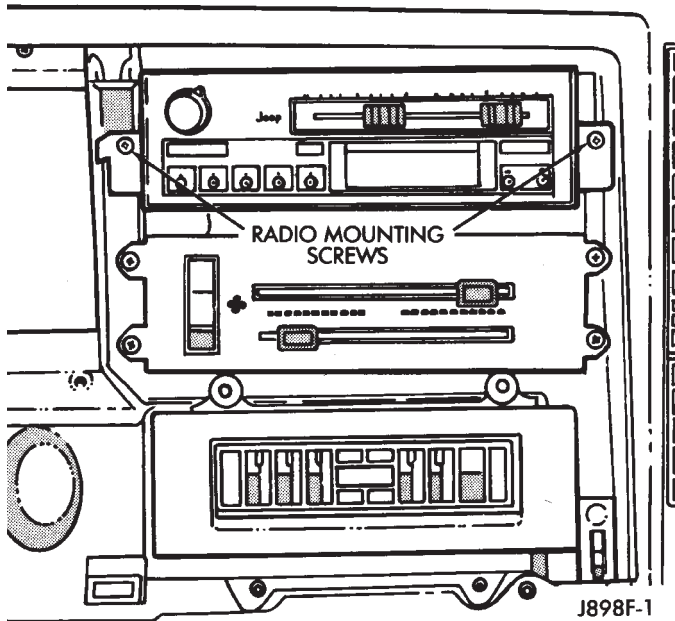

Fig. 2 Remove/Install Radio Mounting Screws
- (3) Remove radio attaching screws (Fig. 2).